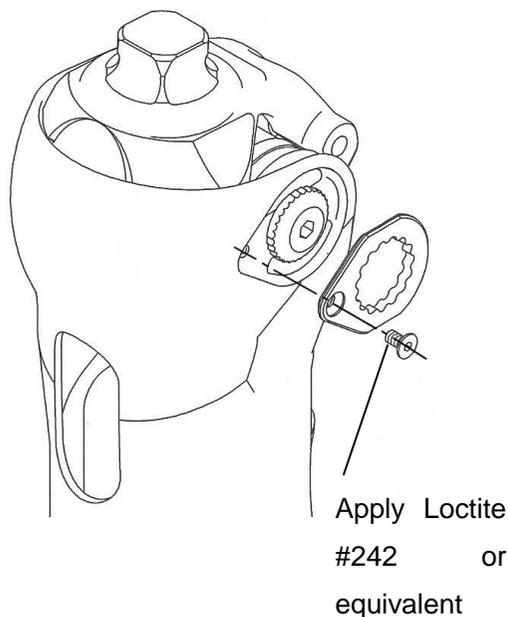

Figure 9.
4) After confirming the smooth movement of the joint with bending and extending the knee joint several times, re-install the bolt cover and the screw bolt. (See Figure 9.)